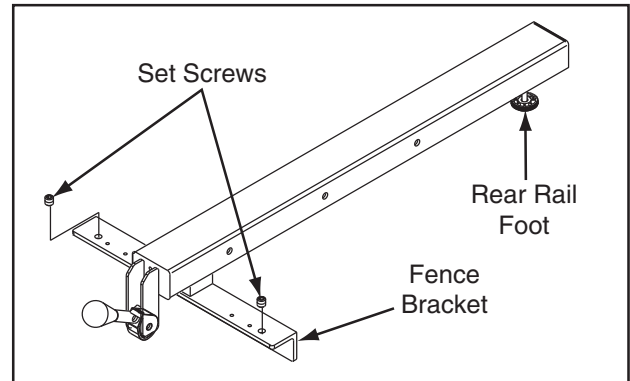

Figure 137. Fence components used to adjust fence height and squareness to table.
3. Adjust the set screws (**Figure 137**) on top of the fence bracket to ensure the fence face is 90° to the table.
Note: If the front end of the fence needs to be adjusted up or down, use the set screws from **Figure 137**; however, turn them in even increments and recheck the squareness afterwards.